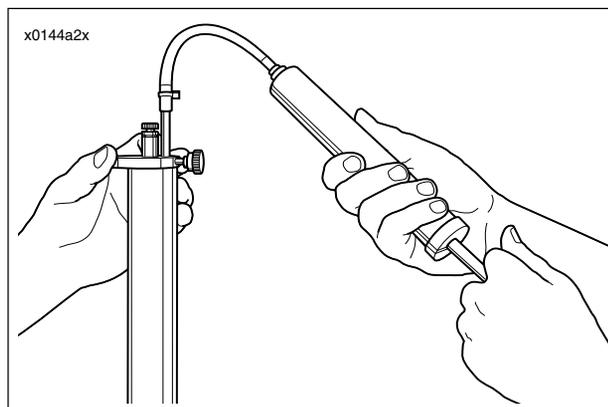

Figure 1-48. Fork Fluid Level
15. See Figure 1-48. Using the PRO-LEVEL OIL GAUGE (HD-59000A), adjust the oil level to 85 mm (3.3 in.) from top of fork tube.